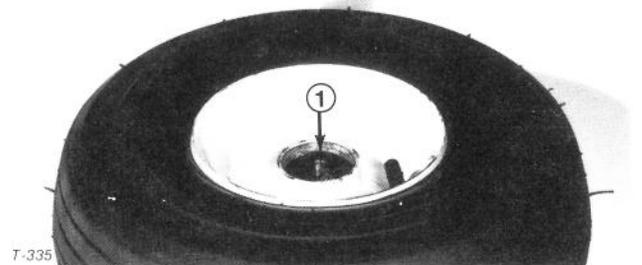

Figure 37
3. Remove bearings from wheel hub (Fig. 37). Clean the bearings in solvent and assure they are in good operating condition. Also, clean the inside of